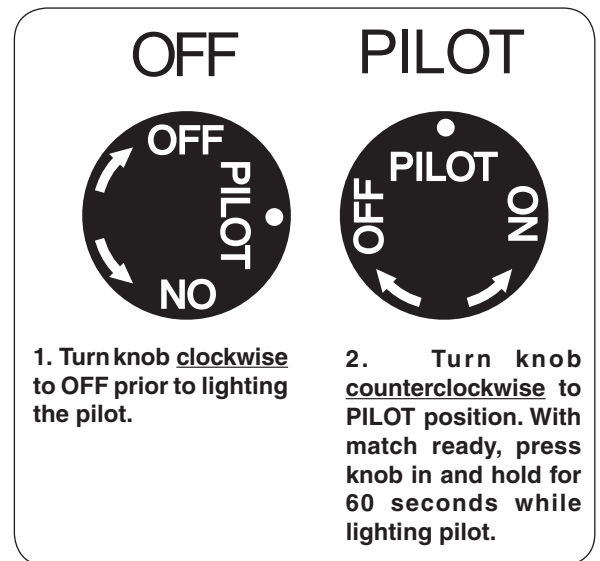

Fig. 35-1 Control knob detail (OFF, PILOT)
1. Locate the valve on the side of the unit. Push in the gas control knob slightly and turn clockwise to **OFF** (Fig. 35-1).
2. Turn the control knob counterclockwise to **PILOT** (Fig. 35-1). Push the control knob **firmly and fully** in and hold. Hold a long fireplace match or lighter near the thermocouple to light the pilot. Continue to hold the control knob in for approximately 60 seconds after the pilot is lit, then release the knob. The pilot will remain lit.